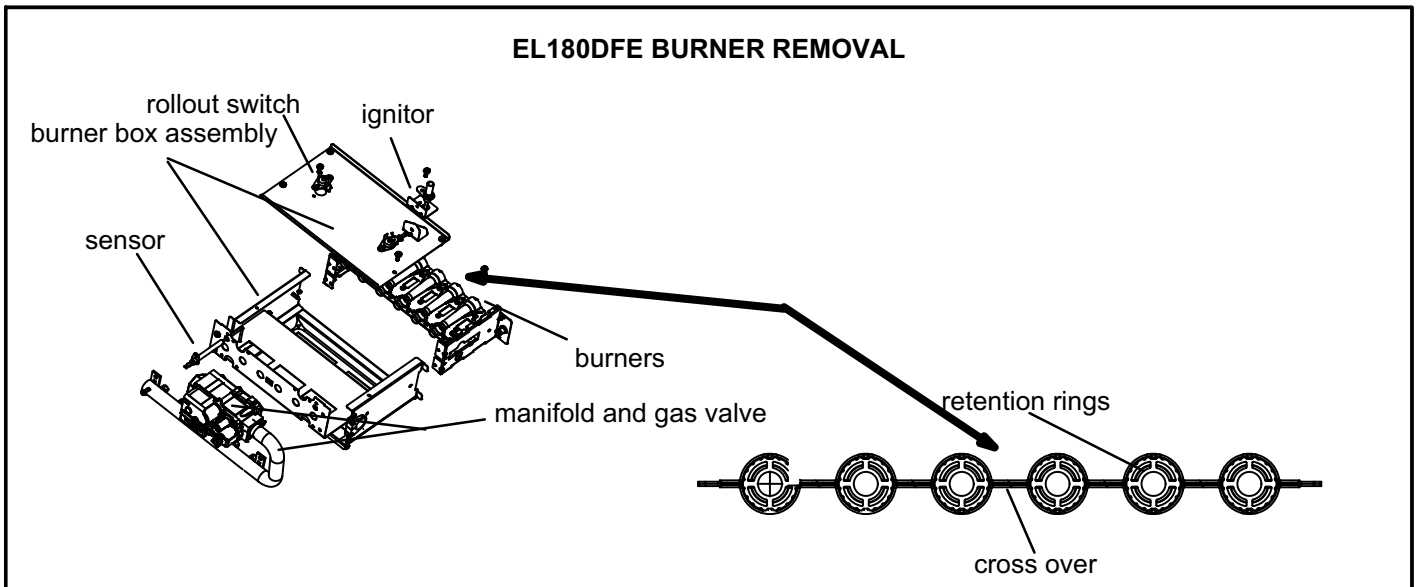

FIGURE 24
- 7- To clean burners, run a vacuum cleaner with a soft brush attachment over the face of burners. Visually inspect inside the burners and crossovers for any blockage caused by foreign matter. Remove any blockage. Figure 24 shows burner detail.